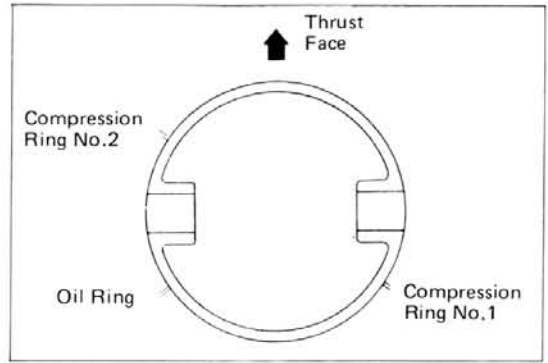

Fig. 1-67 Positioning Ring End Gap
12. Install the piston into the cylinder using a piston ring compressor facing the piston front mark toward the front of the cylinder block. When installing the piston, it is advisable to insert vinyl tubes onto each connecting rod cap bolt to prevent scoring the cylinder wall or the crankshaft journal. Make sure that the end of each ring is not directed to the thrust face of the piston and also that each ring is not coincided with the other ring end gap as shown in figure 1-67.